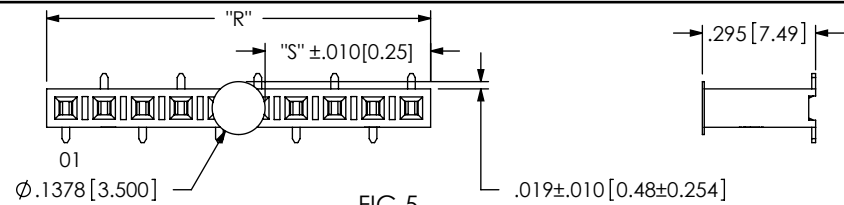

FIG 5
- K: POLYIMIDE FILM PAD (SEE FIG 5, SHT 2) (USE K-500-500) (NOT AVAILABLE ON -SH AND -DH)